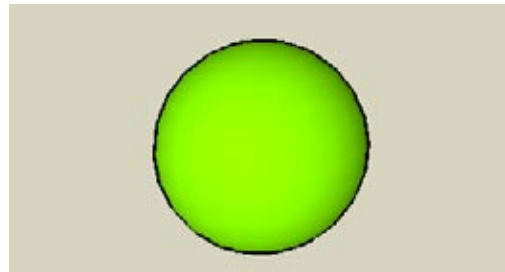

Figure 2-75
6. Erase the larger circle, leaving only the sphere (Figure 2-75).